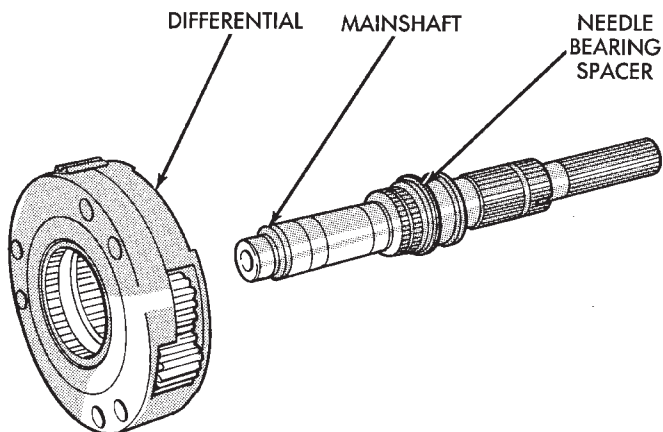

Fig. 42 Removing Differential From Mainshaft
- (7) Slide differential off mainshaft (Fig. 42).